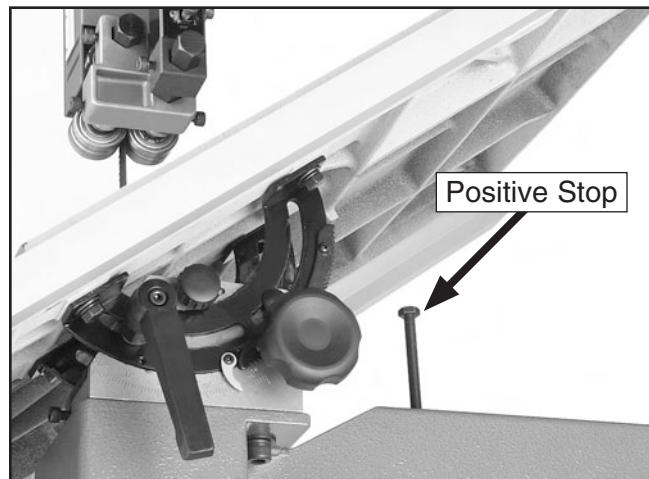

Figure 19. Installed positive stop bolt.
2. Thread the positive stop bolt into the threaded hole on bandsaw body as shown in Figure 19.